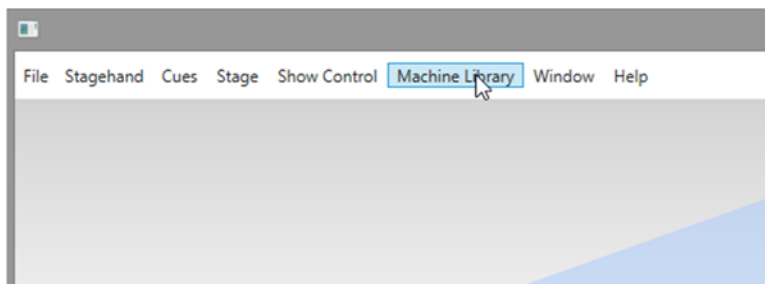

Figure 159
1. Click or tap the Machine Library menu (Figure 159).